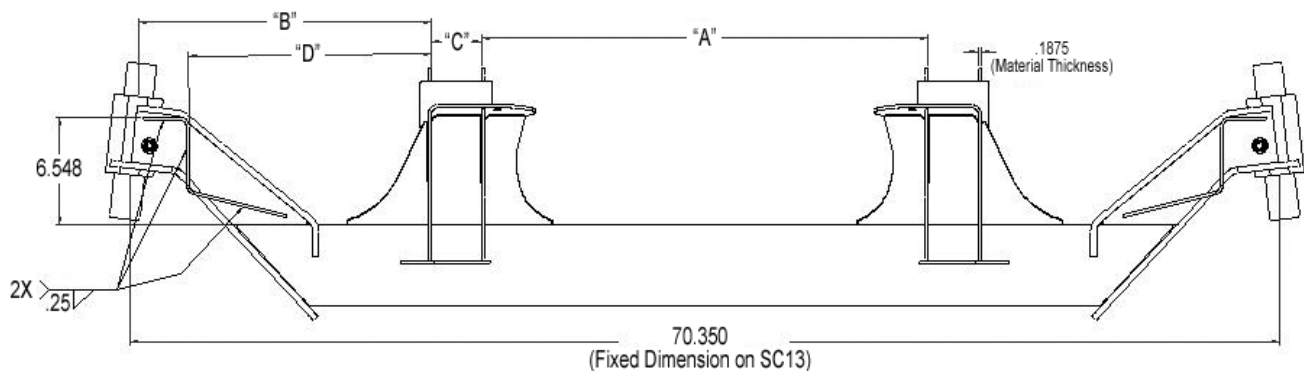

Figure 1: Lock Straight Kit Welding – Fabricated-End Axle as Viewed from the Rear of the Vehicle
2. Position one lock straight bracket using dimensions located in Figure 1 and Table 1.
5. Place a 0.25" fillet weld per callouts in Figure 1.